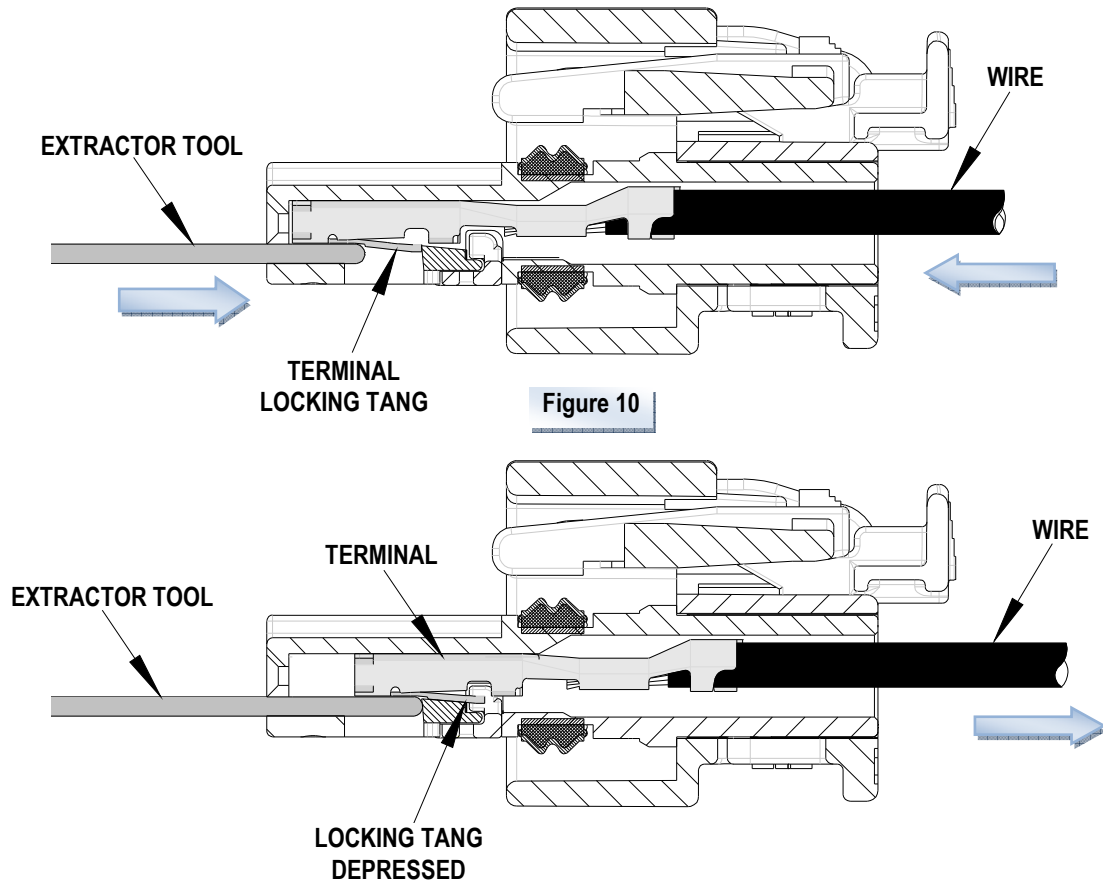

Figure 10
4. Depress the terminal locking tang and gently pull the terminal back through the connector slot in the arrow direction as shown in Figure 10.